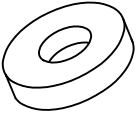

FIG. 1
- 1. WEATHER WARNING ! DO NOT ERECT YOUR BUILDING ON A WINDY DAY. ANY BUILDING LEFT PARTIALLY CONSTRUCTED MAY BE SERIOUSLY DAMAGED FIG1.**
- 2. ALL ASSEMBLY OPERATIONS MUST TAKE PLACE ON A COMPLETELY LEVEL SURFACE FIG 1.**
- 1. TEMPÊTE DE VENT: NE JAMAIS MONTER VOTRE ABRI PAR GRAND VENT. NE PAS LAISSER UN ABRI PARTIELLEMENT MONTÉ, LES PIÈCES POUVANT ÊTRE ENDOMMAGÉES (FIG. 1).**
- 3. TOUTES LES OPÉRATIONS DE MONTAGE DOIVENT ÊTRE RÉALISÉES SUR UNE SURFACE PLANE (FIG 1).**
- 1. STELLEN SIE DAS HAUS NICHT AN EINEM STÜRMISCHEN TAG AUF. JEDES HAUS WÜRDE UNTER SOLCHEN FIG. 1. WETTERLAGE BESCHÄDIGT WORDEN.**
- 2. MAN MUß DEN GARTENSCHUPPEN AUF EINER GANZ EBENER FLÄCHE ERRICHTEN FIG. 1.**